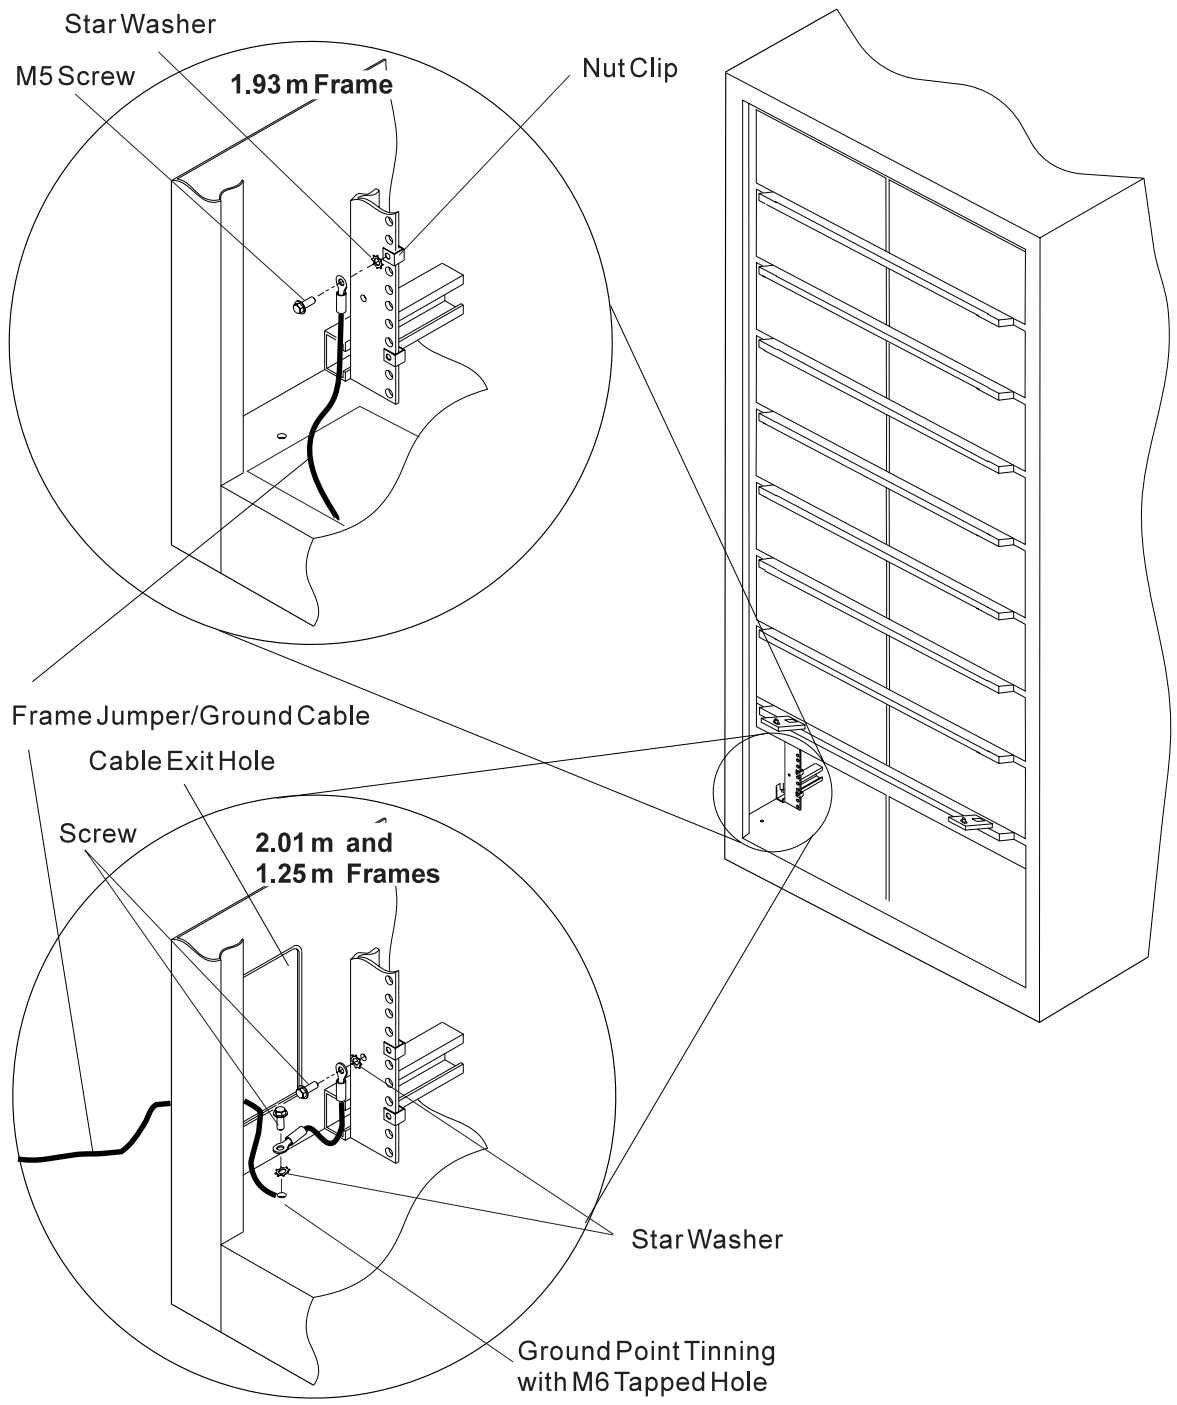

Figure 2-7. Installing Frame Jumper/Ground Cable Between SP Frames
- b. **All other SP frames:** Install the ground strap (part number 46G5695) between each adjacent frame through the closest exit hole and fasten to the nutclip on the EIA rail, as shown in Figure 2-7 on page 2-11.